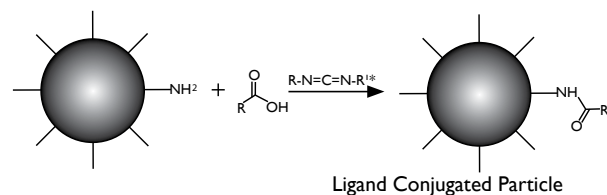

Figure 7 Examples of carbodiimide-mediated coupling processes
- Carboxyl or Amino functionalized particles are very useful for covalent coupling of proteins, ligands, antibodies or antigens to the surface of the microparticles using water soluble carbodiimide as the coupling agent. Figure 7 is a diagram of antibody and protein coating of carboxyl and amino particles using EDC coupling.